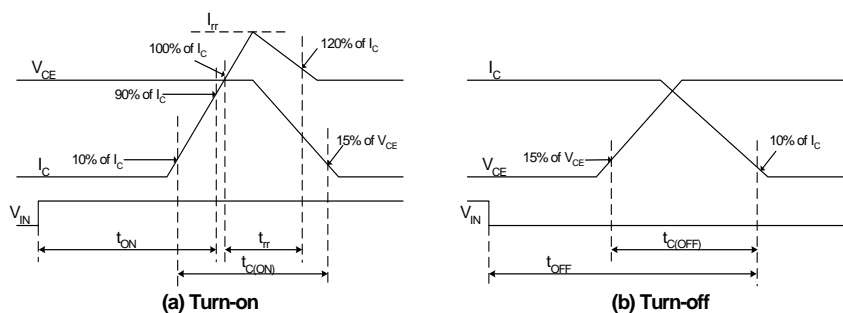

Fig. 4. Switching Time Definition
1. t_{ON} and t_{OFF} include the propagation delay time of the internal drive IC. t_{C(ON)} and t_{C(OFF)} are the switching time of IGBT itself under the given gate driving condition internally. For the detailed information, please see Fig. 4